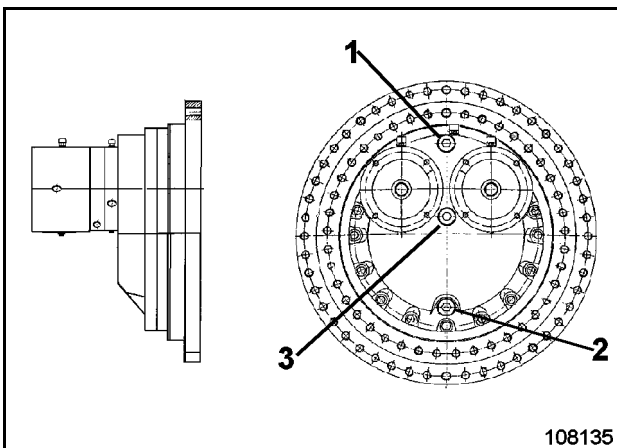

Fig. 3-132:
- Unscrew drain plug (2, Fig. 3-132:) and drain off the oil completely.